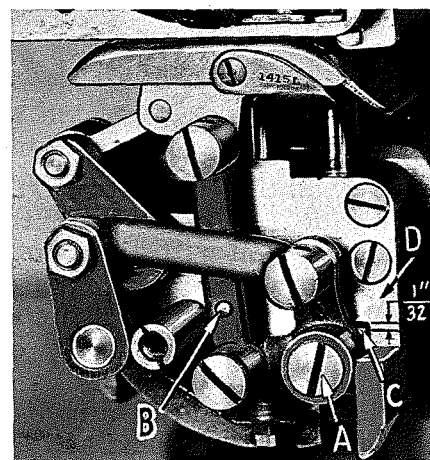

Fig. 10
To make this adjustment, loosen the screw (A, Fig. 10) and, with the right hand, hold the feed plate against the presser foot. Then, by holding feed link (B) with the left hand, push down feed point until there is  $1/32$  inch clearance between the block (C) and the plunger bearing block (D). Then, retighten screw (A).
Turn handwheel in operating direction until the feed point reaches its highest position and check to see that the feed point is in the center of the slots in the feed plate. If the feed point is not in proper alignment, loosen screw (A, Fig. 10) and turn the feed plate to align the feed point in the slots. Retighten screw (A).